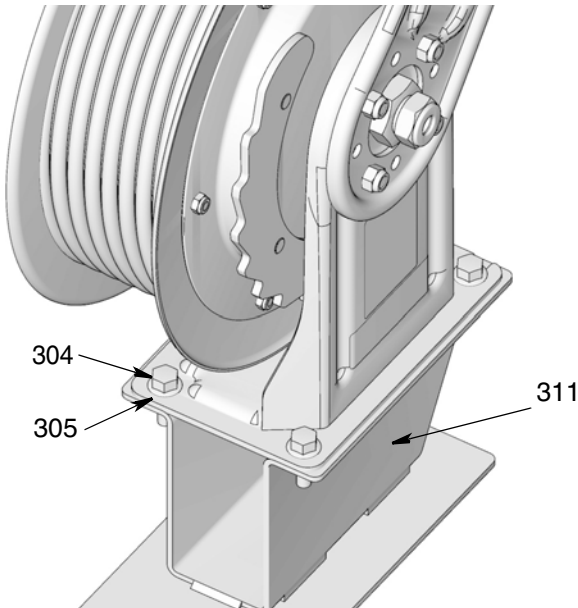

FIG. 11
4. Bolt mounting bracket (311) to base of reel with bolts/washer (304/305). (FIG. 11)